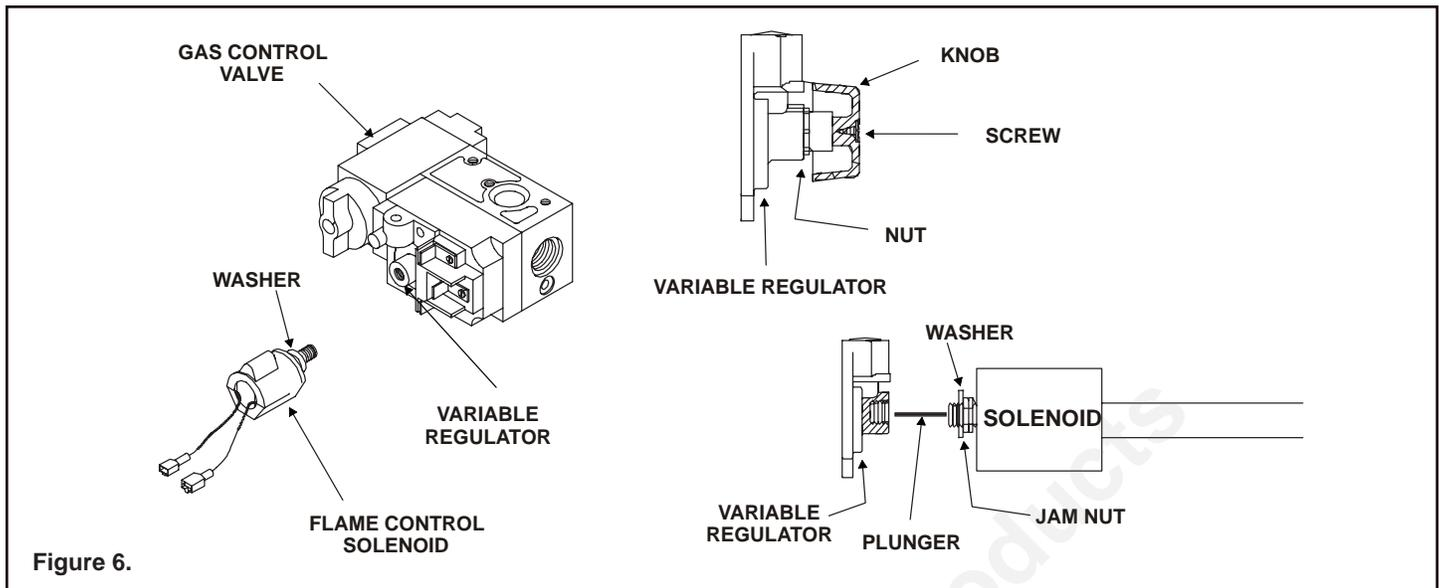

Figure 6.
8. Place washer on flame control solenoid (see Figure 6).
9. Insert the correct plunger (blue - natural gas, red - propane) into the flame control solenoid (see Figure 6).